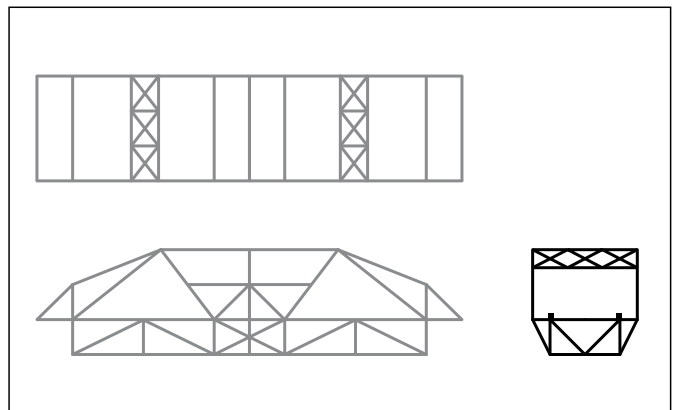

Figure 15 – Same as Figure 14 but with the end view added to the right of the side view
Complete the top, side, and end view sketches of a model bridge you plan to build. The placement of the views is noted in the grid paper provided (Figure 15). Draw the views to full scale. If the bridge is to be made of balsa wood, each member will be  $\frac{1}{8}$  inch wide. If it is to be constructed of basswood, each strip will be  $\frac{3}{32}$  inch wide.
3. Now, draw the end view (Figure 15 on the previous page). This is the view you would see if you were in a car approaching the bridge.